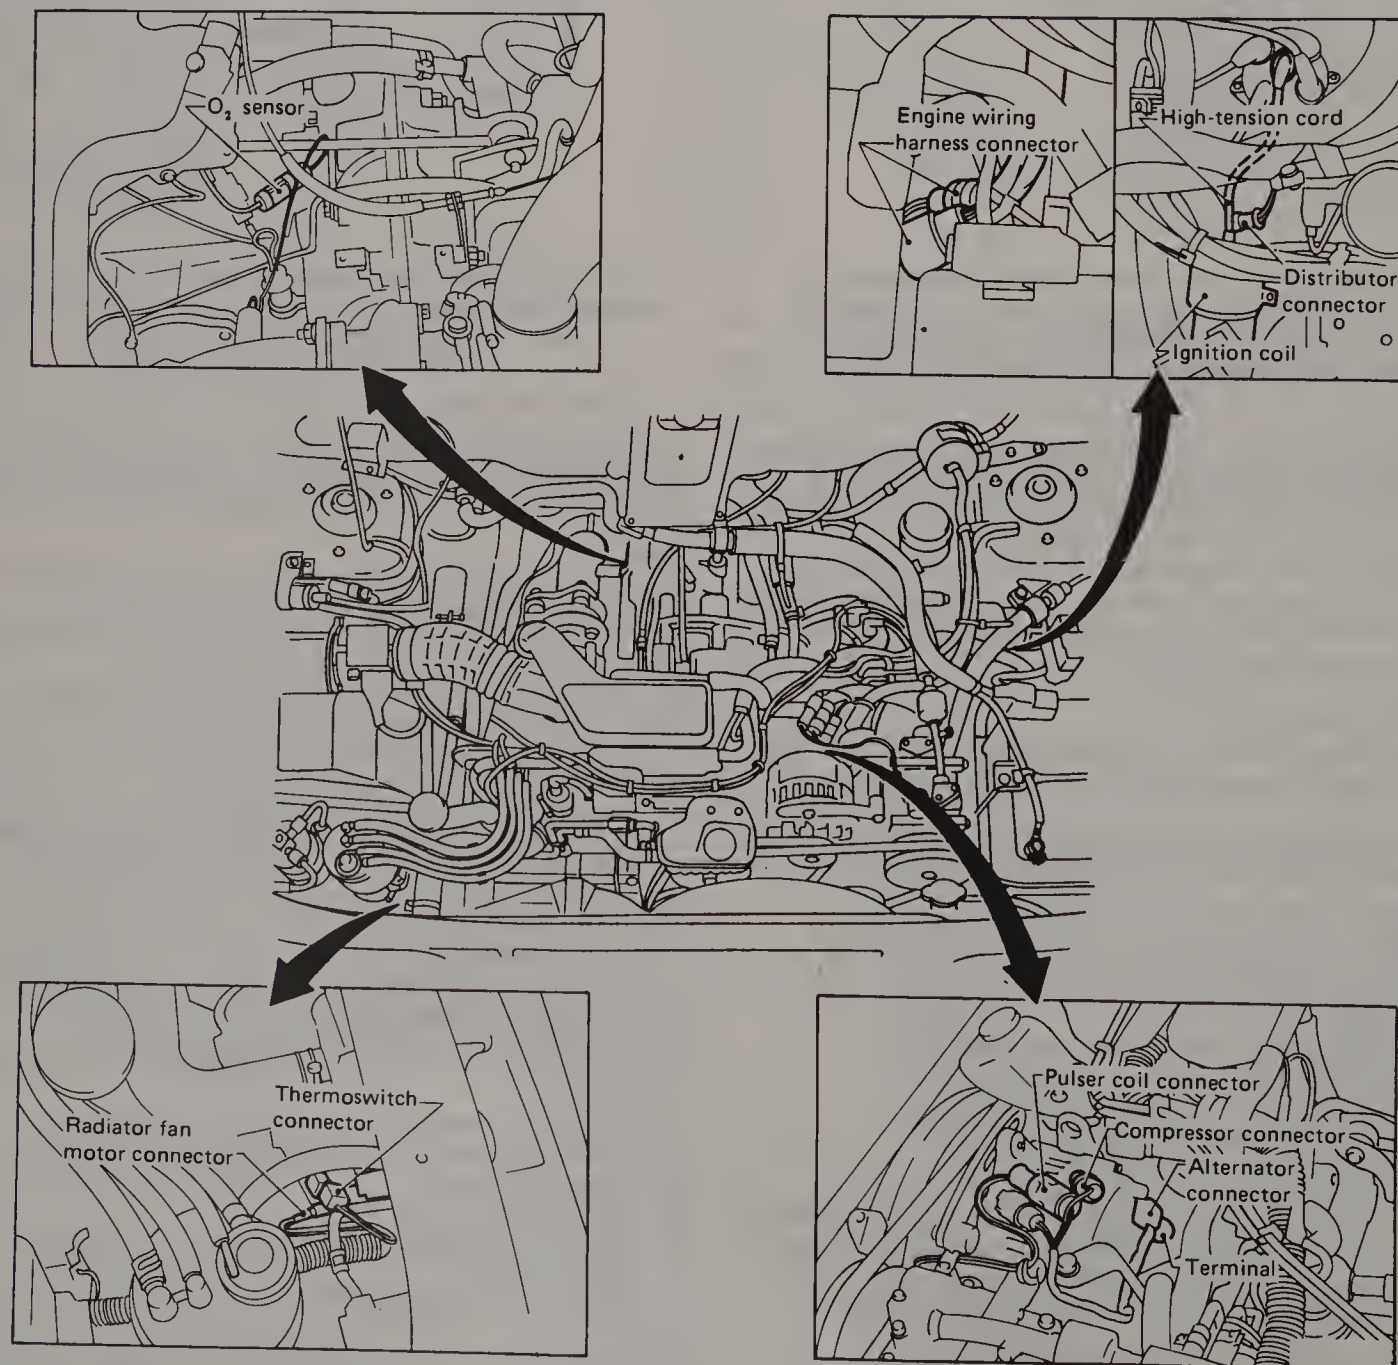

Fig. 13.8 Engine compartment electrical connector details (Sec 5)
- 16 Unplug the engine wiring harness connectors, oxygen sensor connector, high tension lead to the ignition coil, distributor-to-crank sensor connector, alternator connector and terminal, air conditioning compressor connector and pulser coil connector, engine ground terminal, radiator fan motor connector and thermoswitch connector (Fig. 13.8).